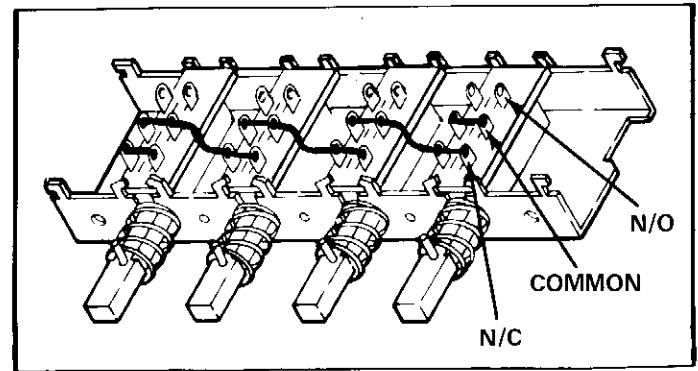

Figure 12. BANK OF FOUR SELECTION SWITCHES.
4. **PRODUCT SELECTION SWITCHES:** Refer to page 22). The main product selection switches (item 4) are in banks of four (See figure 12), and *cannot* be separated. Should one switch fail, it is necessary to replace a bank of four. To replace a switch bank or a selector button (item 6) remove the rear cover (item 8) from the switch assembly; it is a snap-fit to the switch mounting box (item 7). Unplug electrical harness at bottom of switch box. With the cover removed, the four mounting screws (item 9) (two top and two bottom) can be removed. The entire assembly can then be removed from the door and selection buttons and/or switch banks replaced.
5. **USE CORRECT CHANGE LAMP:** (Refer to page 14, item 4). The use correct change lamp is located on the door above the selection switches. Use only 24V lamps for replacement.